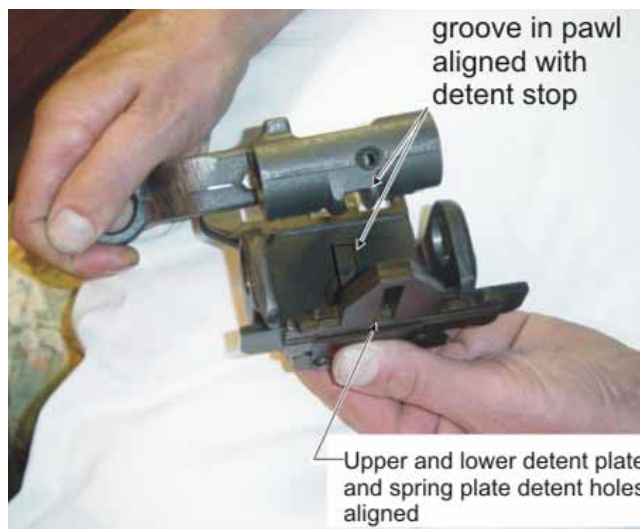

Figure 2 Pawl Installation
- n. Align the upper detent plate (Figure 1 (4)), the lower detent plate (Figure 1 (2)), and spring plate (Figure 1 (5)), ensuring the groove in the pawl is aligned with detent stop (Figure 1 (13)), see Figure 2.